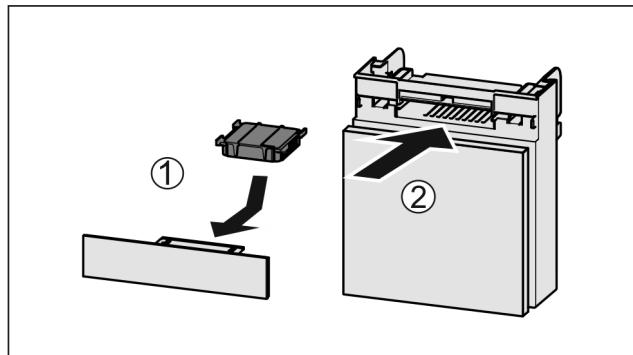

Fig. 152
- Insert the carbon filter as shown in the diagram Fig. 152 (1).
Push the compartment in Fig. 152 (2).